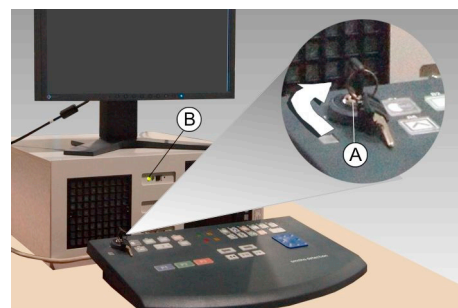

Fig. 57: Key switch of the remote station
- ▶ Turn the key switch ④ of the remote station clockwise (into position II) in order to switch on the unit (see Fig. 57). The key switch will backslide automatically to position I and the green LED ⑤ lights up.